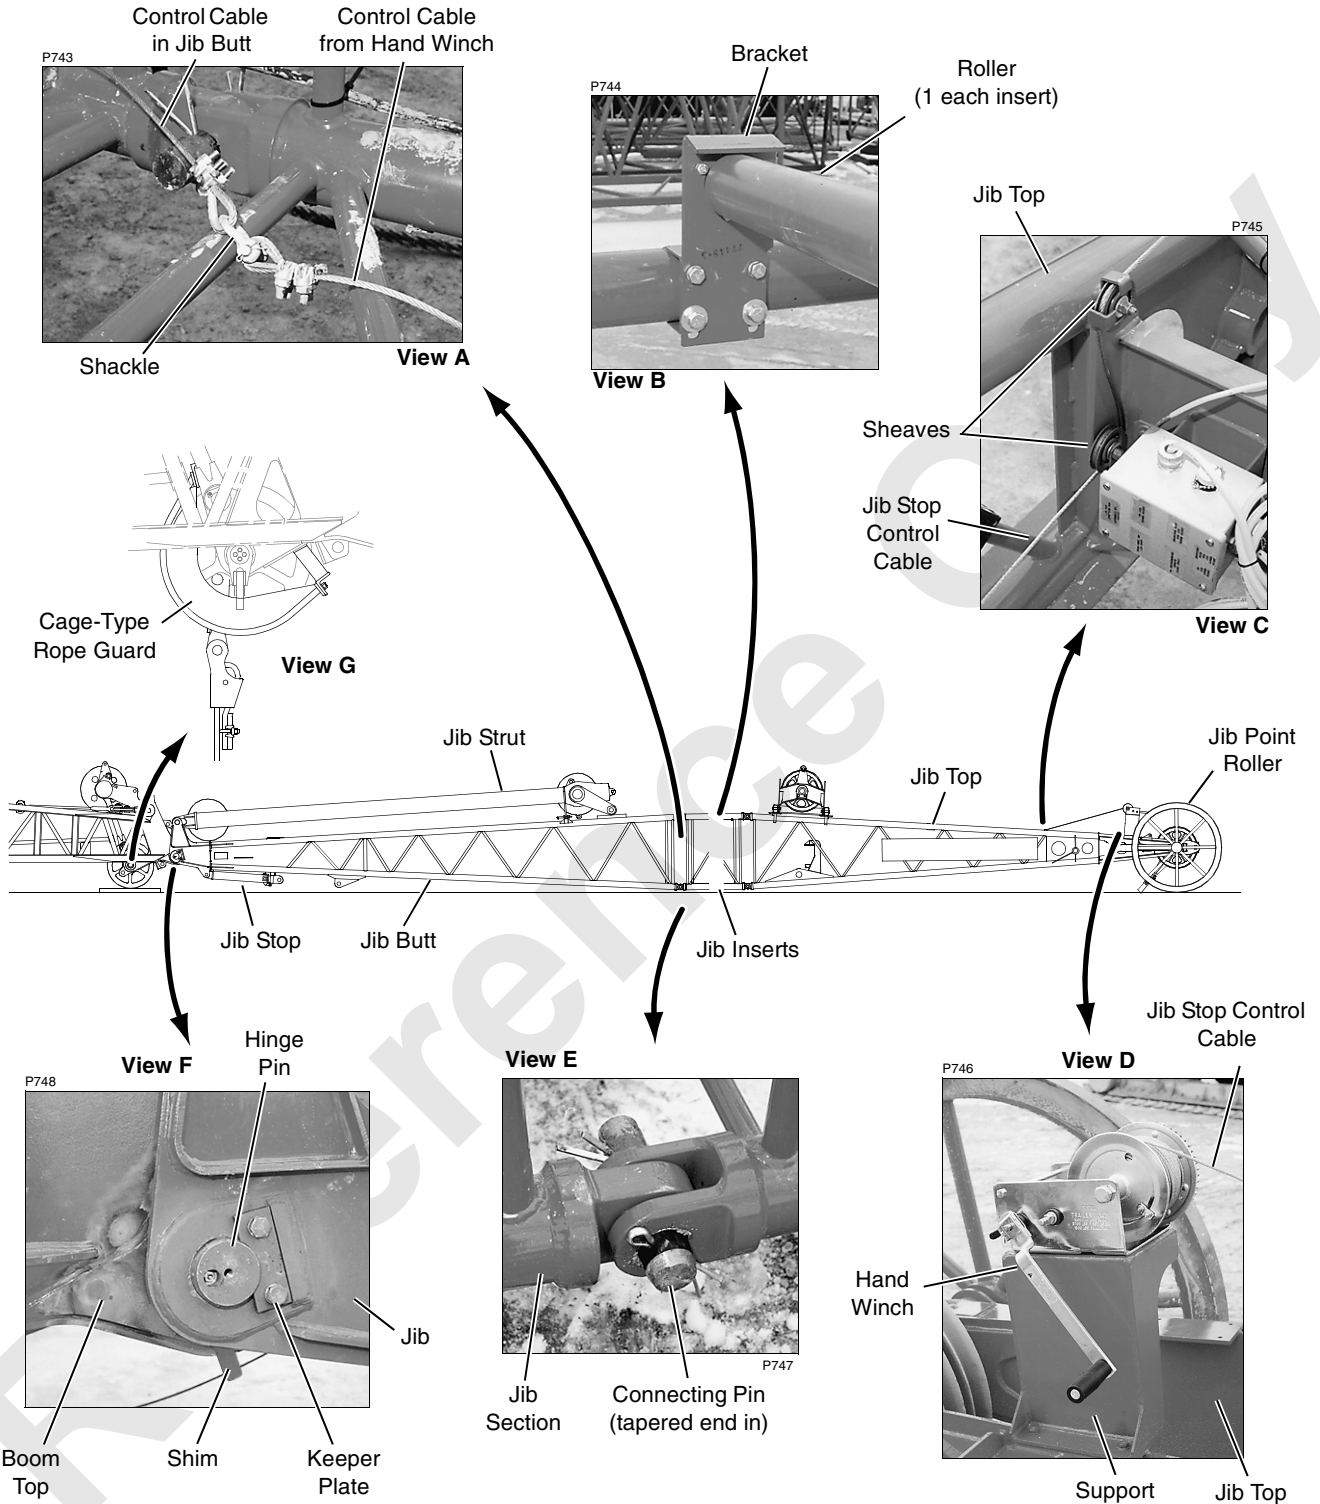

FIGURE 4-5
See Figure 4-5 for following procedure, unless otherwise noted.
4. If crane will be used to self-assemble luffing jib, disconnect boom from boom butt (777) or 17-1/2 ft (5.3 m) insert (777T) and install assembly block. See Figure 4-5 and procedure in Crane Assembly and Disassembly Guide in Crane Operator's Manual.
See Figure 4-5 for following procedure.